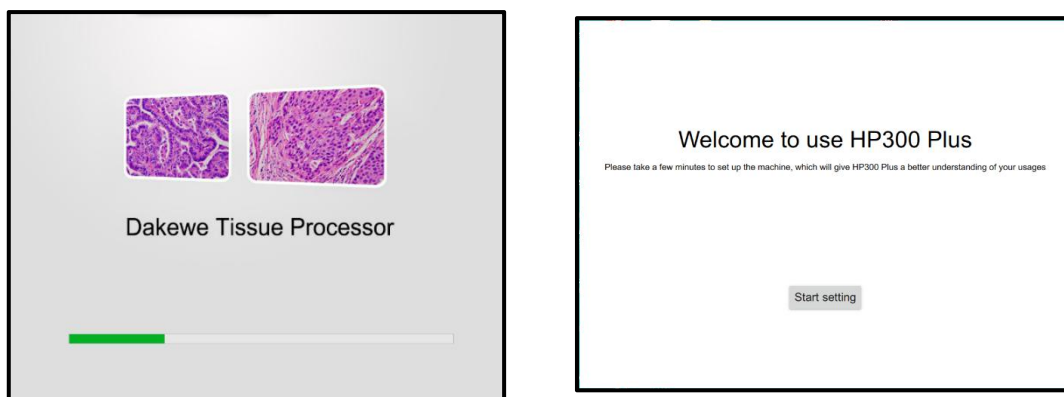

Figure 26
4. After the initialization is complete, the system will enter the boot preference setting interface (Figure 26). By setting preference settings, the use of the device is more in line with the actual user habits.